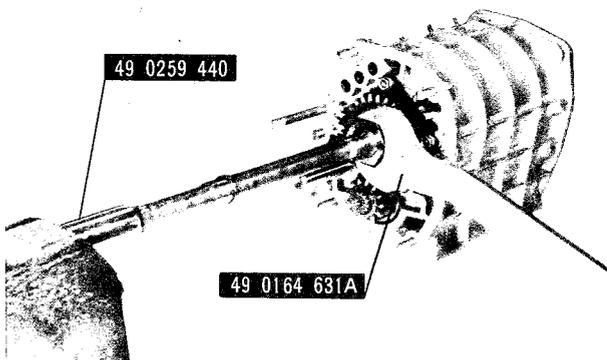

Fig. 7-4 Removing main shaft lock nut
16. Straighten the tab of the lockwasher, hold the main shaft with the **main shaft holder** (49 0259 440), as shown in Fig. 7-4, and loosen the lock nut by using the **spanner** (49 0164 631A). Remove the reverse gear and key from the main shaft.